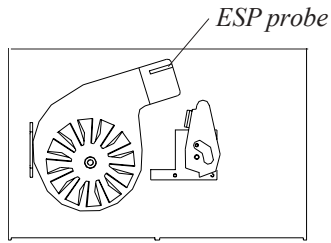

Fig. 35: Exposed blower wheel and flue opening, NOTE: ESP probe is visible.
6. Remove the combustion blower cover by turning the blower cover latch vertical as shown in fig. 32. Slide the cover out of the slot on the left. This will expose the combustion blower wheel and flue outlet, fig. 35.